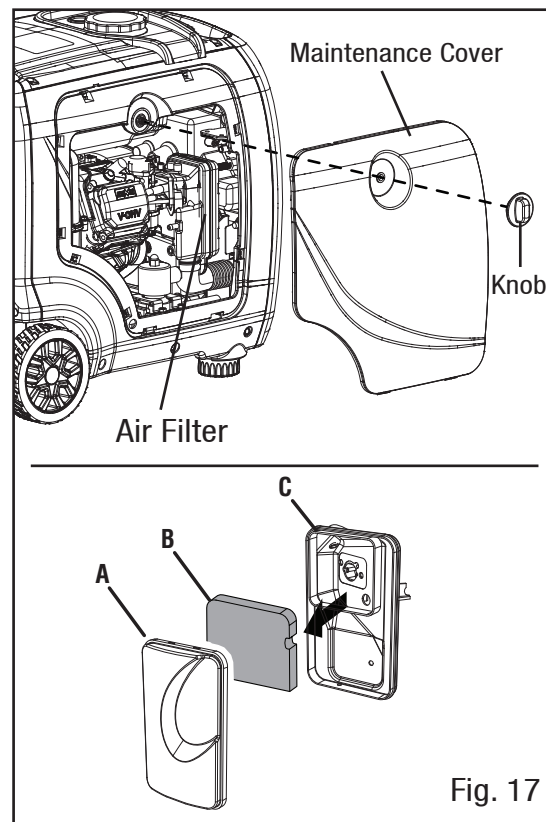

Fig. 17
2. Take the cover off of the air cleaner (Fig. 17). Remove the sponge-like air filter element from the casing. Wipe excessive oil and any dirt from inside of the air filter casing.
1. Unscrew the maintenance cover knob, and remove the cover from the side panel (Fig. 17).